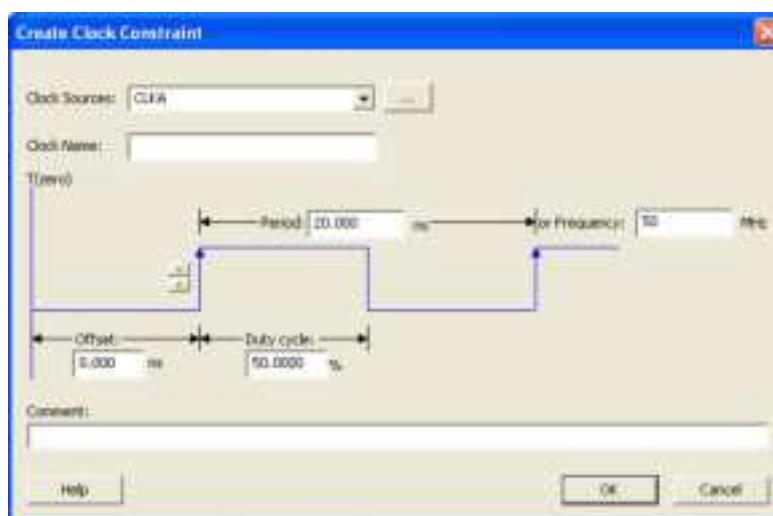

Figure 1-39 • Create Clock Constraint Dialog Box
2. Right-click **Clock** in the Constraints Editor and choose **Add Clock Constraint**. The Create Clock Constraint dialog box appears (Figure 1-39).